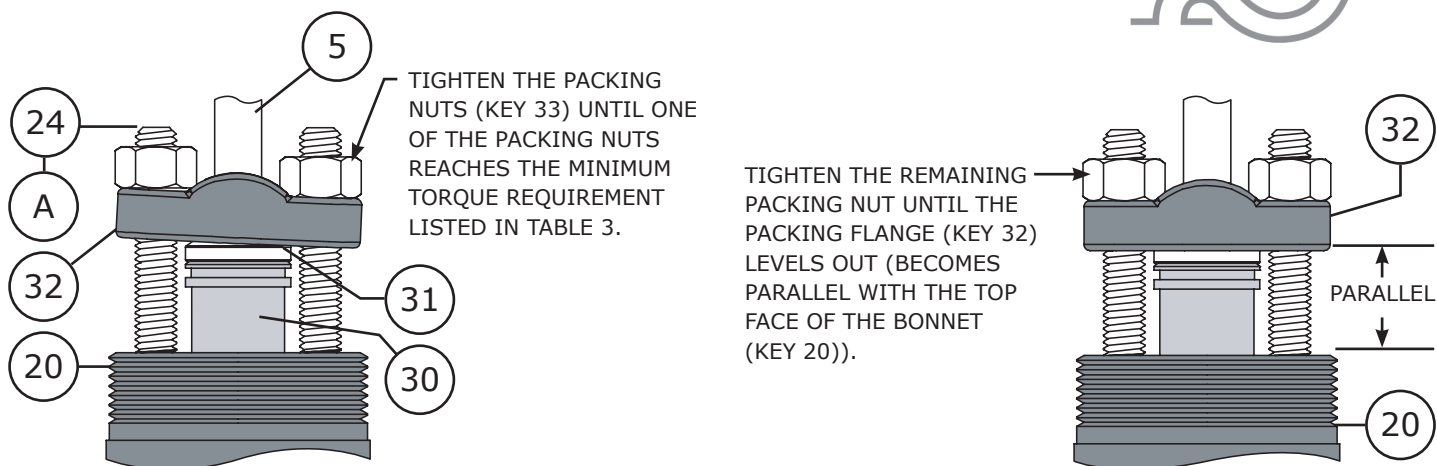

Figure 29 Double PTFE V-Ring Packing Tightening Diagram
- 9 Thread the packing nuts (Key 33) onto the threads of the packing studs, tighten the packing nuts evenly in an alternating pattern until one of the packing nuts reaches the minimum torque requirement shown in Table 3. Tighten the remaining packing flange nut until the packing flange (Key 32) becomes level (is parallel with the top face of the bonnet), refer to Figure 29.